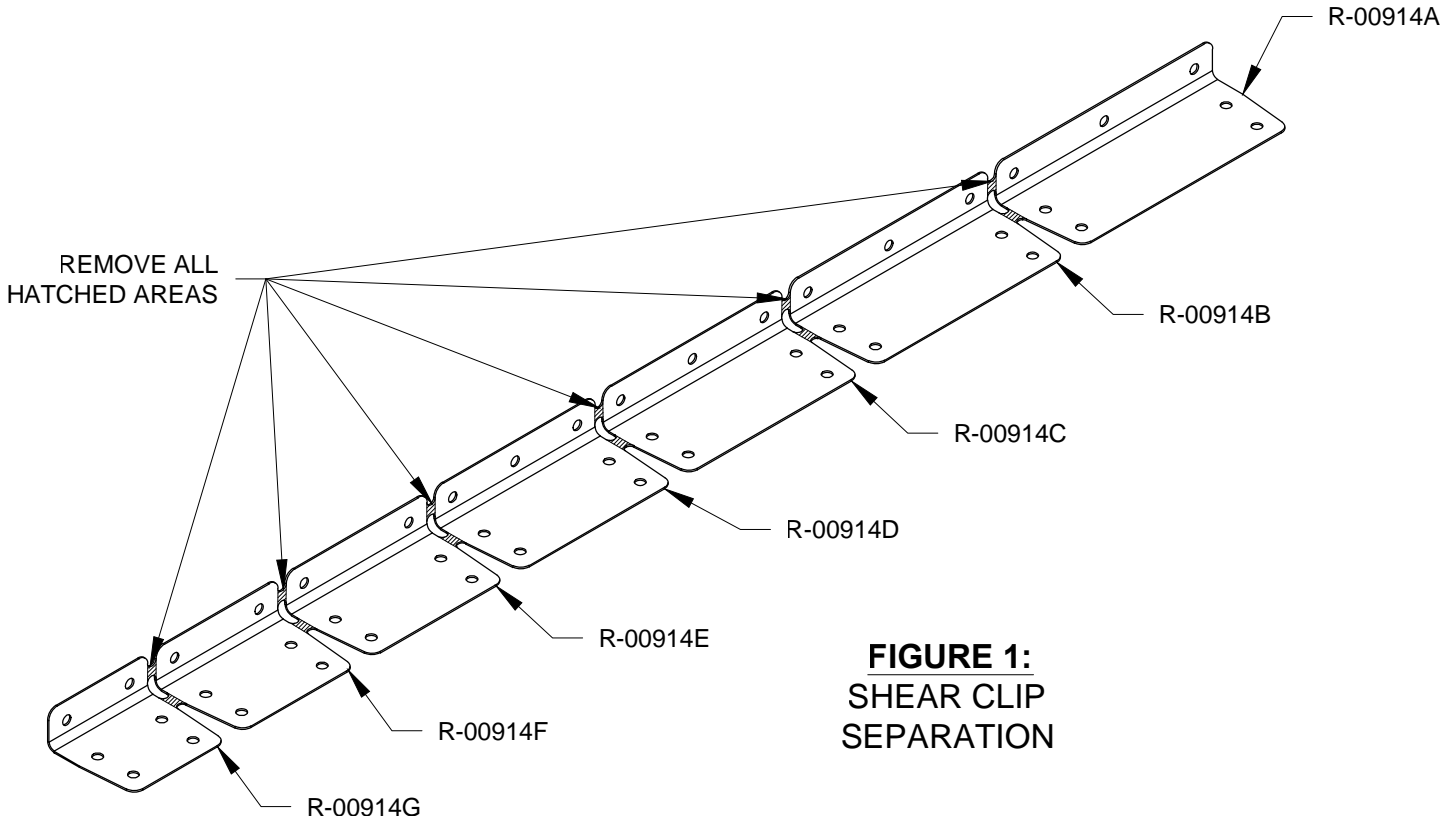

FIGURE 1:
Step 1: Separate the R-00914 Stiffener Shear Clip into individual shear clips by removing the hatched areas as shown in Figure 1. Deburr parts.